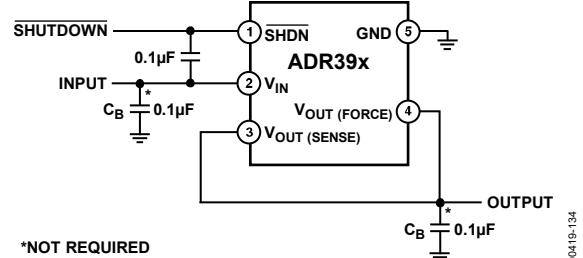

Figure 35. V_{IN} and SHDN Capacitor
- Capacitor placed between V_{IN} and SHDN as shown in Figure 35, or